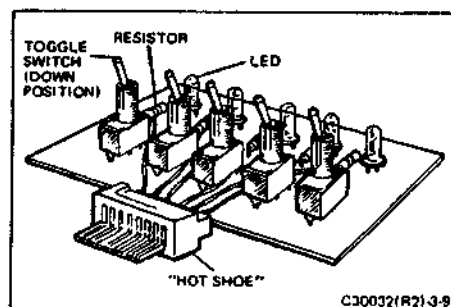

FIGURE 3-9 FLASH SIMULATOR BOARD
5. Flash Simulator Board (Figure 3-9)
The Flash Simulator Board provides a quick, easy method for checking the flash firing capability of the SX-70 camera. Figure 3-9 shows the board